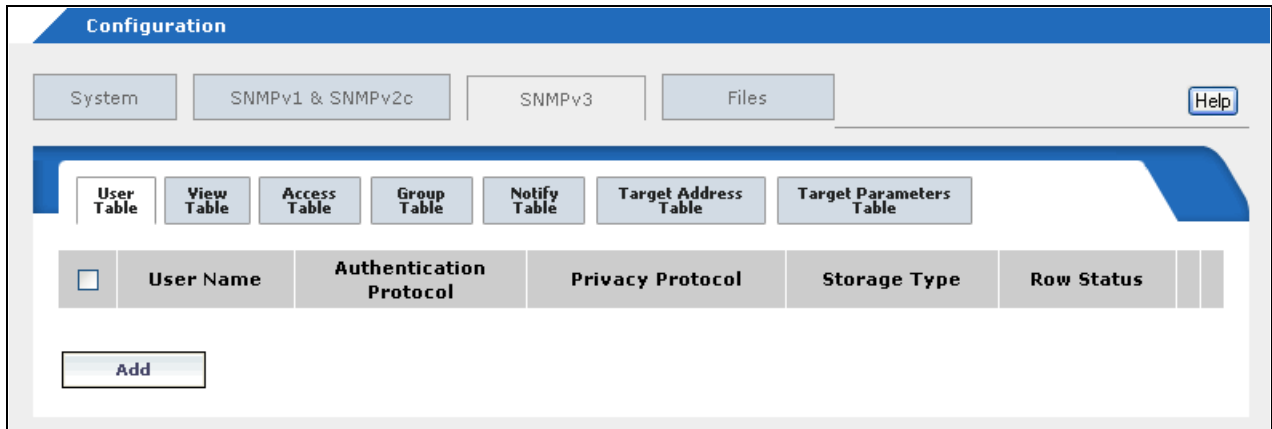

Figure 112. SNMPv3 User Table Tab
- :Click the **Configuration** button in the menu bar and then select the **SNMPv3** tab and the **User Table** tab. The SNMPv3 User Table tab is shown in Figure 112.